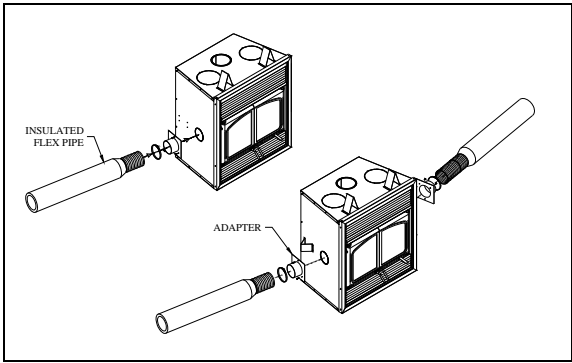

Figure 16
- A) Remove the knock outs at the back and/or the side of the fireplace and cut the insulation around the hole. Fix the adapter into place with screws. You can use more than one outlet on the fireplace (figure 16);